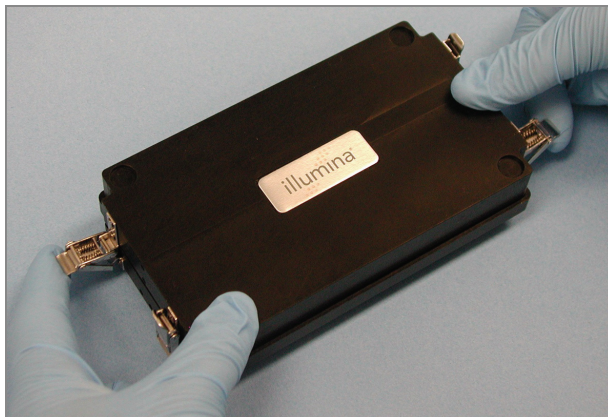

Figure 144 Sealing the Hyb Chamber
4. Close and lock the BeadChip Hyb Chamber lid (Figure 144).
5. Leave the closed Hyb Chambers on the bench at room temperature until the BeadChips are loaded with DNA sample (Figure 144).